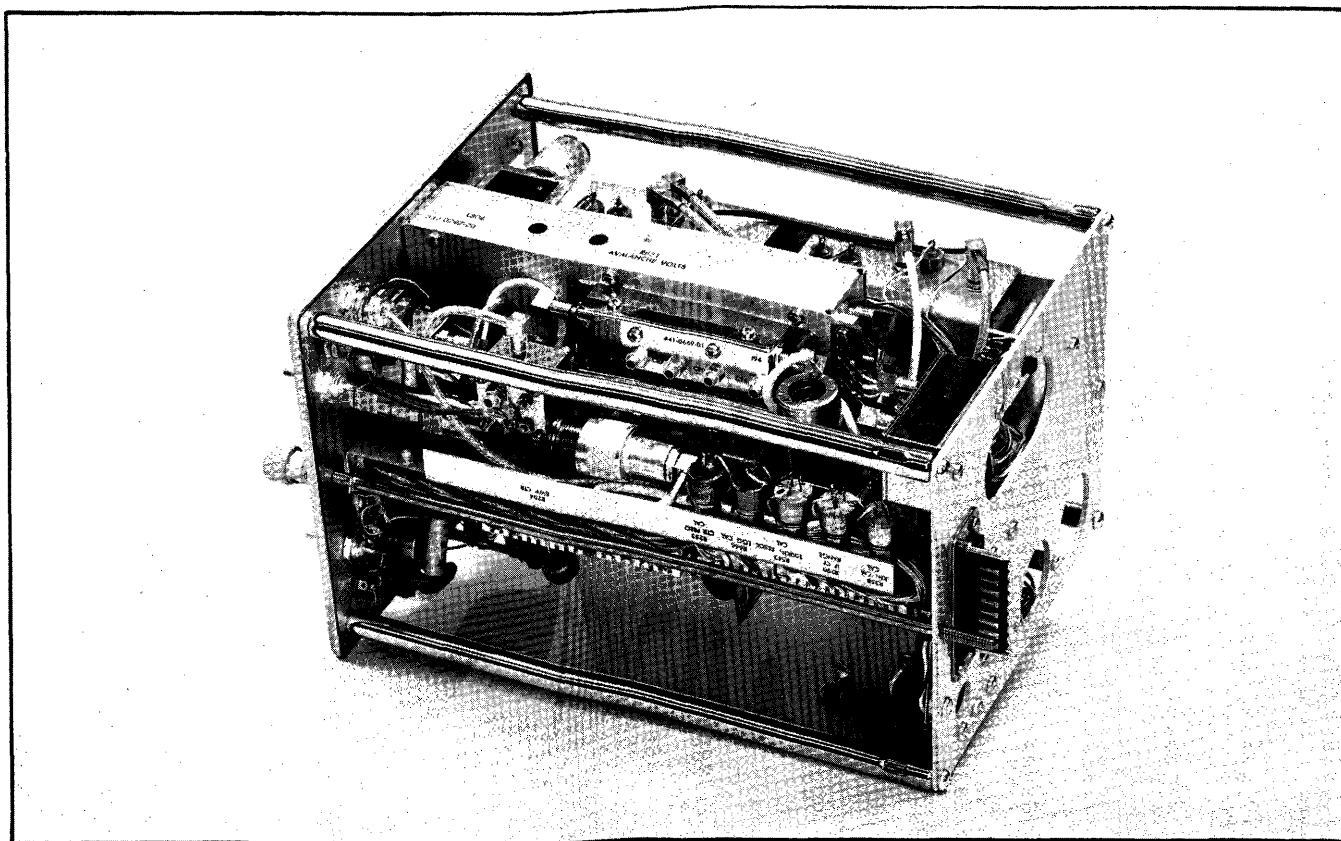

Fig. 4-3. Wiring and cable connections to Phase-Lock assembly.
in Step 4, and the cables. See Fig. 4-3 and Table 4-3 for the correct hook-up.
6. Reconnect the cabling as shown in Fig. 4-3 and Table 4-3.